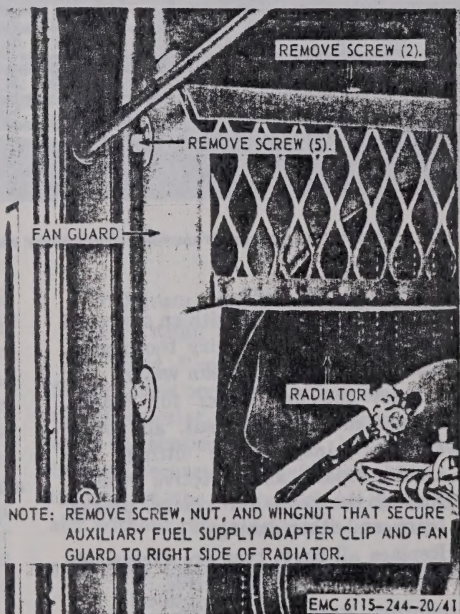

Figure 41. Fan guard, removal and installation.
a. Removal. Refer to figure 41 and remove the fan guard from the radiator.
- (1) Clean the fan guard and mounting hardware with an approved cleaning solvent and dry thoroughly.
- (2) Inspect for dents, cracks, bends, and other damage. Replace any damaged or defective part.
c. Installation. Refer to figure 41 and install the fan guard on the radiator.